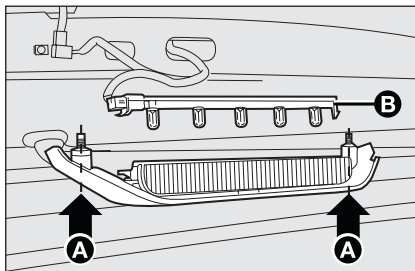

fig. 30
- slacken the two fastening screws **A**-fig. 30;